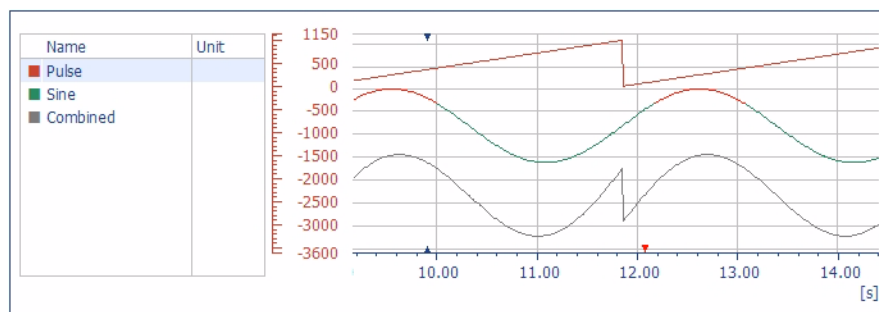
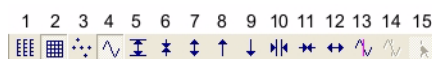

Figure 65 Trace Control in instrument view
Figure 66 Trace Control Buttons
The *Trace Control* shown in Figure 65 comprises a trace indicator in addition to the signal table contained in the *Numeric Control*. At most six signals may be represented at once by a *Trace Control*. The selected signal is emphasized by a light-blue background in the signal table (see Figure 65). The current point in
time is marked by two blue triangles in the trace indicator (one pointing up from the bottom line, one pointing down from the upper line) as shown in Figure 65. Trigger points are marked by red triangles pointing down on the bottom line. A series of control buttons as shown in Figure 66 are assigned to the *Trace Control*. Those buttons are:
- Toggle y axes (Button 1 in Figure 66)
- Toggle grid (Button 2 in Figure 66)
- Toggle markers (Button 3 in Figure 66)
- Toggle lines (Button 4 in Figure 66)
- Fit y scale (Button 5 in Figure 66)
- Zoom in y scale (Button 6 in Figure 66)
- Zoom out y scale (Button 7 in Figure 66)
- Move up (Button 8 in Figure 66)
- Move down (Button 9 in Figure 66)
- Toggle zoom in mode (Button 10 in Figure 66)
- Zoom in time scale (Button 11 in Figure 66)
- Zoom out time scale (Button 12 in Figure 66)
- Toggle measure cursor (Button 13 in Figure 66)
- Toggle difference cursor (Button 14 in Figure 66)
- Toggle cursor set by mouse (Button 15 in Figure 66)